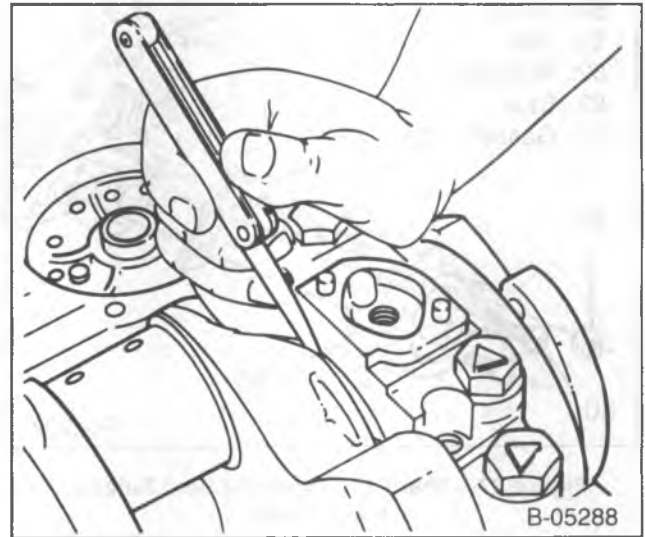

Figure 26—Measuring Crankshaft End Play
- With the crankshaft forced forward, measure at the front end of the rear main bearing with a feeler gage (figure 26). The proper clearance is 0.002-0.006-inch.